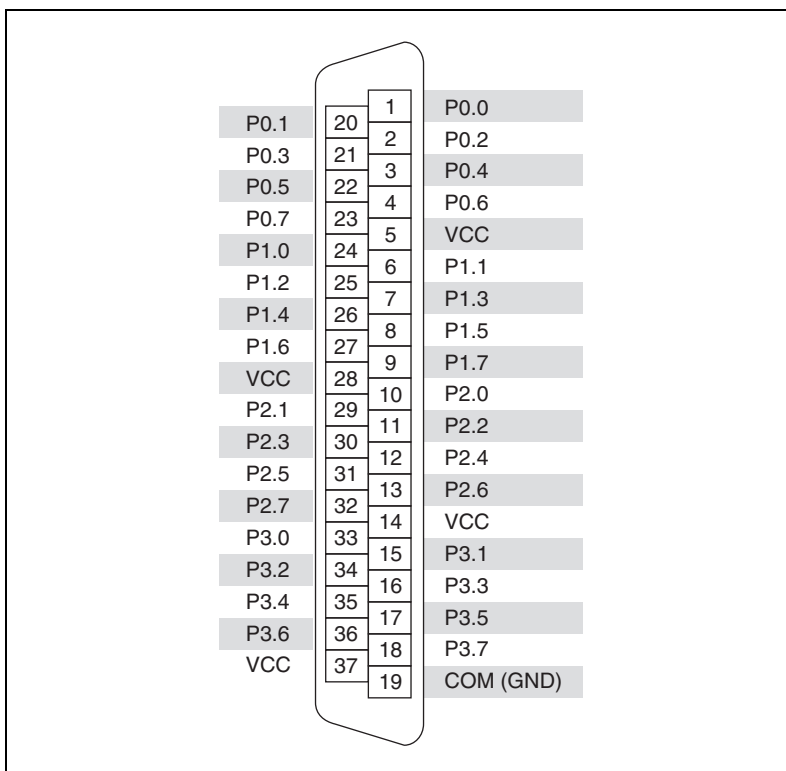

Figure 3-12. NI 6516 Pin Assignments
Figure 3-12 shows the pin assignments for the SH37F-37M cable when connecting to the NI 6516 device. The naming convention for each pin is $PX.Y$, where X is the port (P) number, and Y is the line number or name.